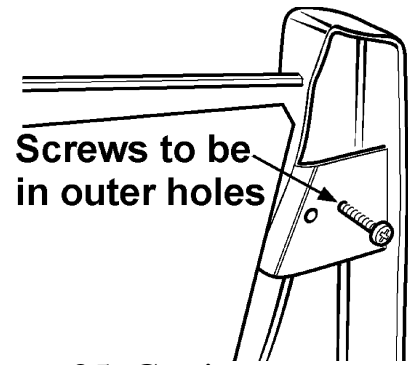

Figure 25. Casting screw position.
1. Check that the two screws in the back of the fire front casting are in the outer threaded holes. If they are in the inner holes, relocate them (See figure 25).